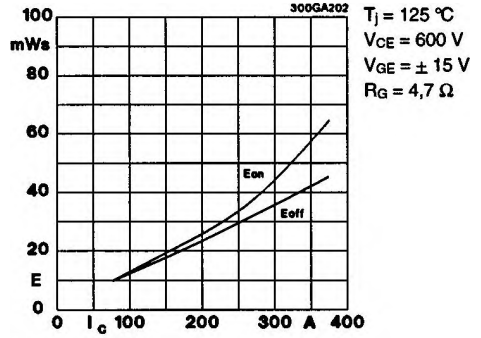

Fig. 2 Turn-on /off energy =  $f(I_C)$
5) See fig. 2 + 3;  $R_{Goff} = 4,7 \Omega$